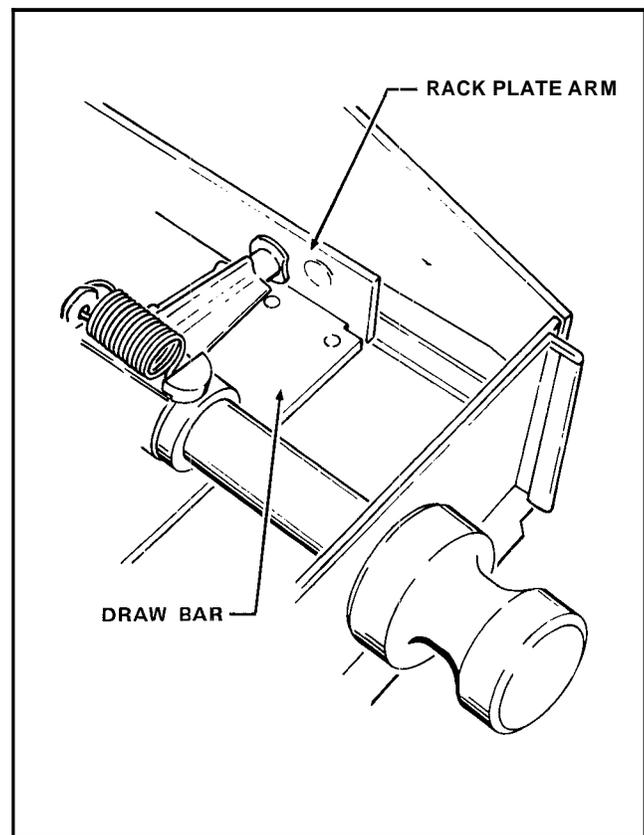

FIGURE 6-5
2. **Check to be sure the right end of the Draw Bar is properly fit under the notched part of the Rack Plate Arm. Compare with the left end fitting of both parts. See Figure 6-5.**